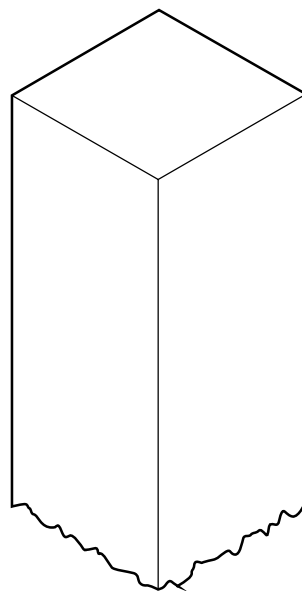

Figure 2.1
Figure 2.1 shows the top section of the post.
- (a) Render Figure 2.1 to look like natural timber. [2]